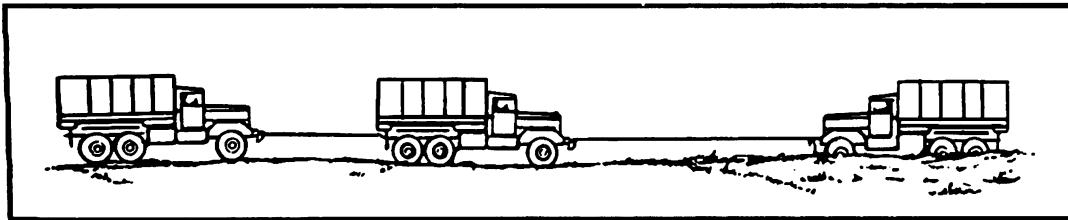

Figure 1. Towing a cargo truck from mire.
a. To recover a mired truck by towing with a similar vehicle, a tow chain should be used between the towing and the mired vehicle, attached to one of the lifting shackles of the mired vehicle and a front lifting shackle on the towing vehicle. If a greater working distance is required to enable the towing vehicle to get better traction, then the tow chains from both vehicles should be used. Power must be applied slowly to prevent placing an impact on the chain and lifting shackles. A chain, unlike a cable, will not stretch and can easily be broken by impact. If one towing vehicle cannot attain sufficient towing effort to overcome the resistance, another towing vehicle can be used in tandem with the first (figure 1).